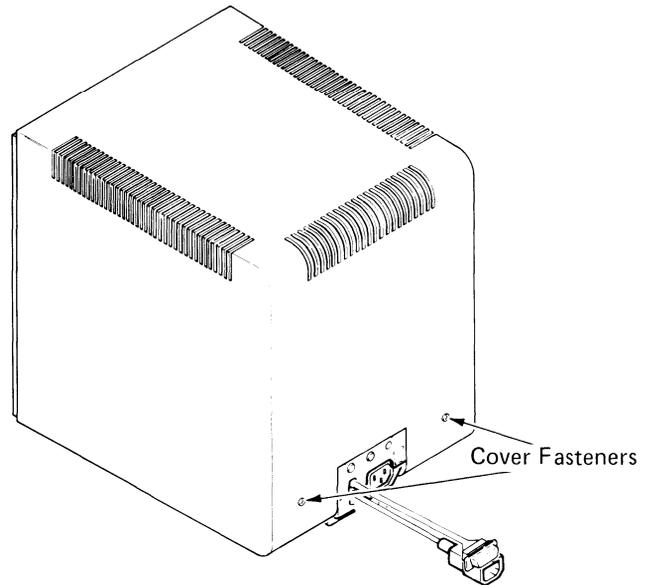

Figure 19 - Quarter-Turn Cover Fasteners
2. Release the quarter-turn cover fasteners in the back of the display module (see Figure 19).